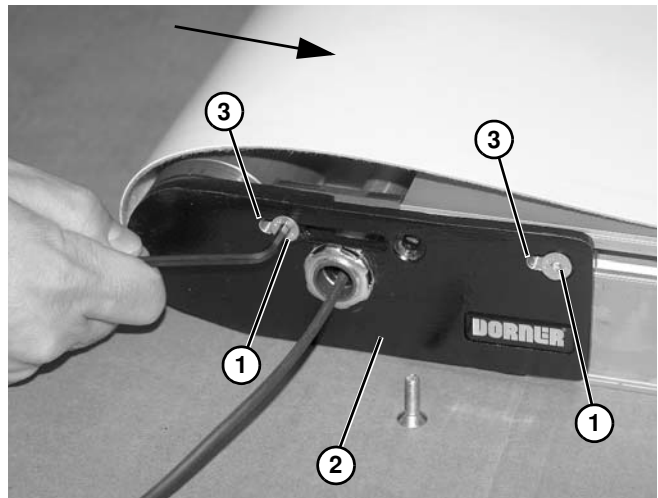

Figure 9
- Loosen outer fastening screws (**Figure 9, item 1**) from iDrive head plate (**Figure 9, item 2**) (on each side of conveyor) to allow head plate assembly to slide in slots (**Figure 9, item 3**). Push head plate inward toward conveyor.